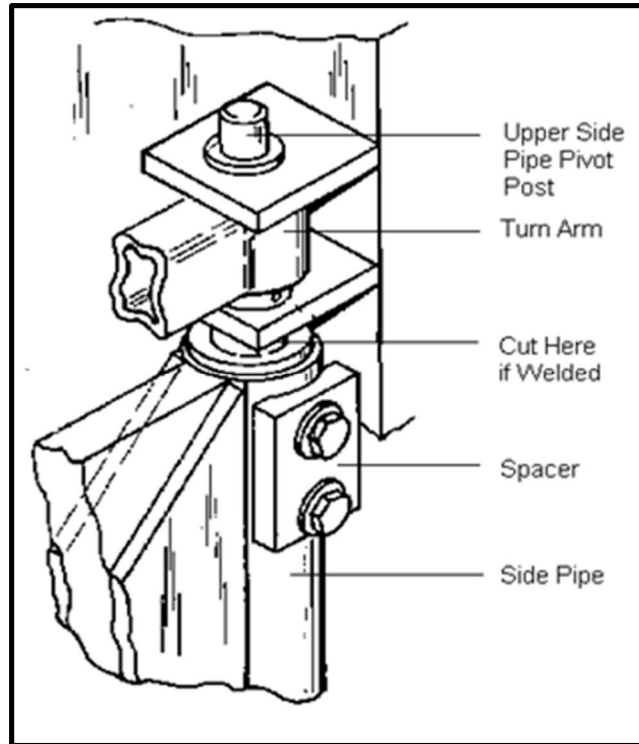

Figure 1
2. Remove the two bolts going through the spacer at the top of the side pipe. This will release the upper side pipe pivot post from the pipe. (See Figure 1)